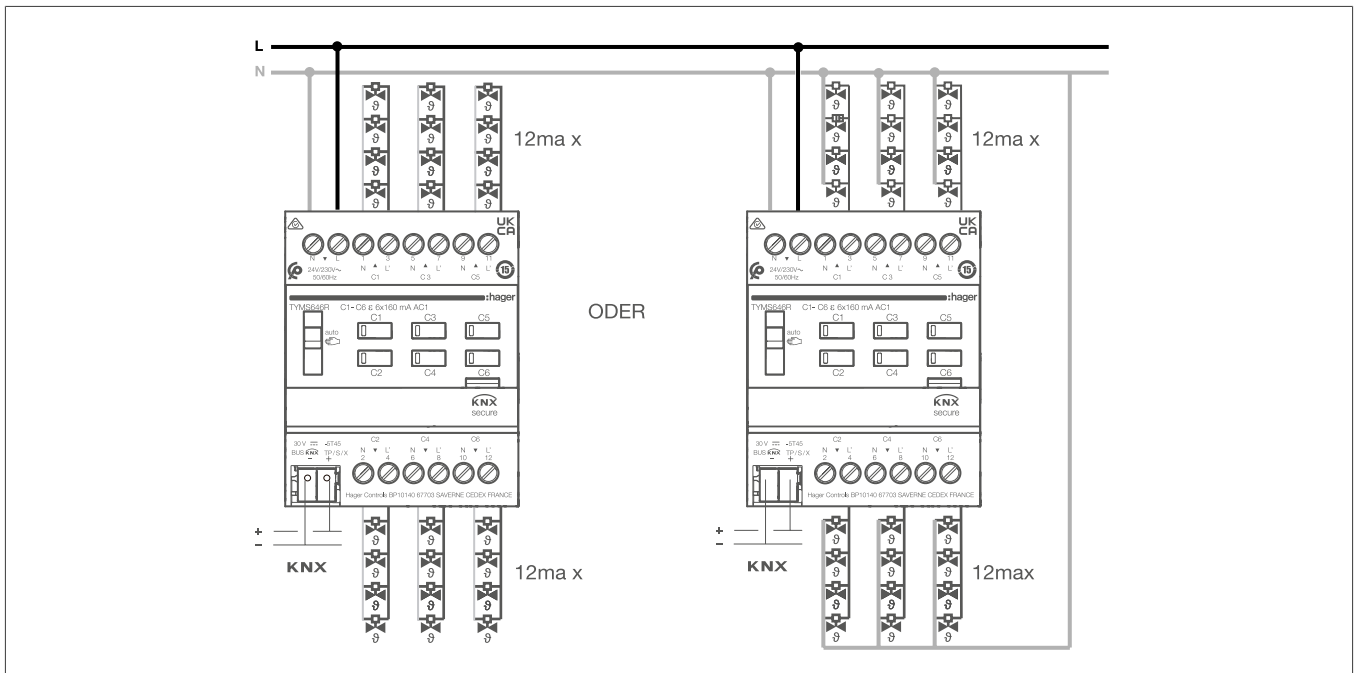

Fig. 7: Connection diagram for valve drives with 230 V~ power supply
- Connect the 230 V~ mains voltage according to the connection diagram (Bild 7).
- Connect the valve drives according to the connection diagram (Bild 7).